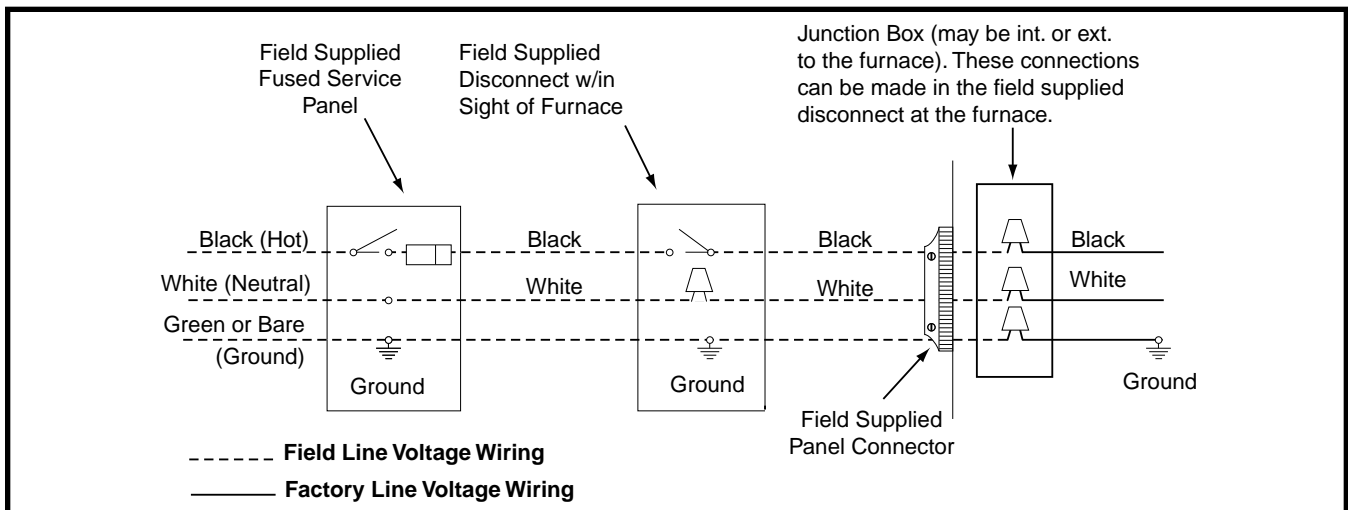
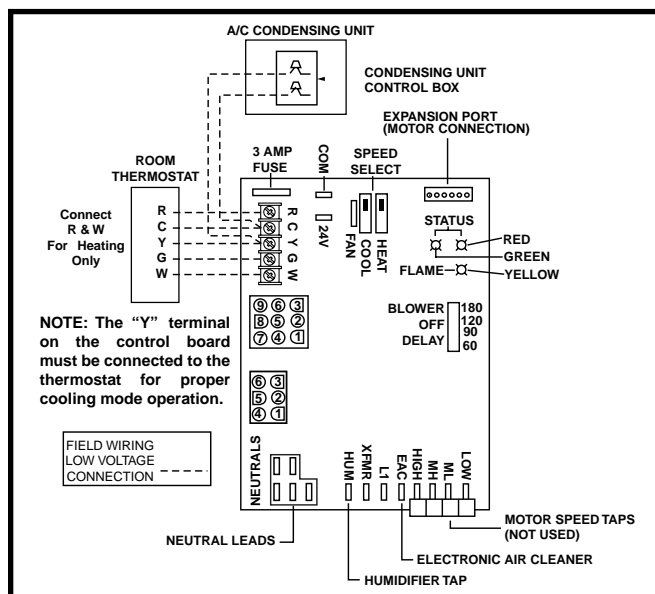

Figure 14. Line Voltage Field Wiring
Figure 15. Low Voltage Field, Four-wire Heating/Cooling Applications
- An electrical disconnect must be installed readily accessible from and located within sight of the furnace. See Figure 14 or the wiring diagram label inside of the control door. Any other wiring methods must be acceptable to authority having jurisdiction.
- Proper line voltage polarity must be maintained in order for the control system to operate correctly. Verify the incoming neutral line is connected to the white wire and the incoming “hot” line is connected to the black wire. The furnace will not operate unless the polarity and ground are properly connected as shown in Figure 14.
- The thermostat must be installed according to the instructions supplied by the thermostat manufacturer. Low voltage connections (24 VAC) from the thermostat are wired to the terminal strip on the integrated control in the furnace. Figure 15 contains the proper connections for heating only (two-wire) and heating/cooling (four-wire) applications. Recommended minimum wire gauge for thermostat wiring is shown in Table 2 (page 20).
- The six pin terminal marked "Expansion Port" (Figure 15) is not used in the single stage furnace as shipped from the factory. It is used for the furnace control board to communicate to a fixed speed or variable speed high efficiency motor that may be optionally installed. Please contact your distributor for the proper upgrade motor kit.
The operating sequences for the heating, cooling, and fan modes are described below. Refer to the field and furnace wiring diagrams: (Figure 14, page 20), (Figure 15, page 21) and (Figure 19, page 30).